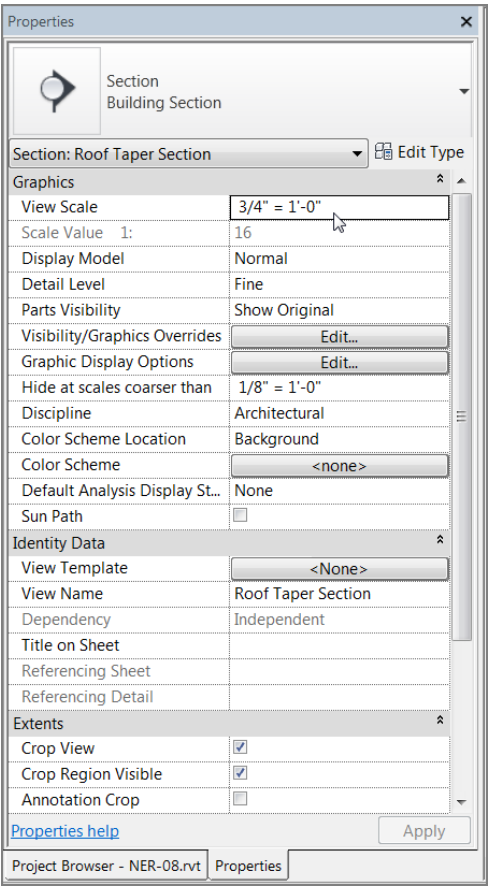

FIGURE 7.18 : Changing the properties of the section
5. Change the View Name option (under Identity Data) to Roof Taper Section (see Figure 7.18).